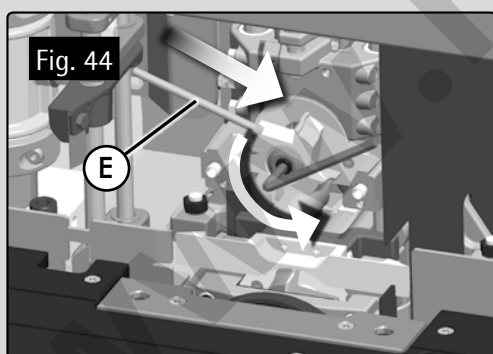

Fig. 44
- Lock the bit shaft, using rod E (Fig.44).